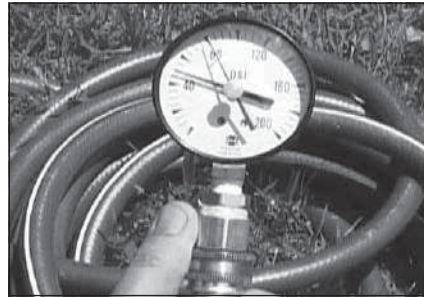

Figure 4 - Use a Water Pressure Gauge to make sure your home's water pressure is not too high.
- Water Pressure Gauge (Figure 4)
We recommend checking your home's water pressure with a pressure gauge (Figure 4.) Most codes allow a maximum incoming water pressure of 80 psi (551.6 kPa). We recommend a working pressure no higher than 50-60 psi (345-414 kPa).